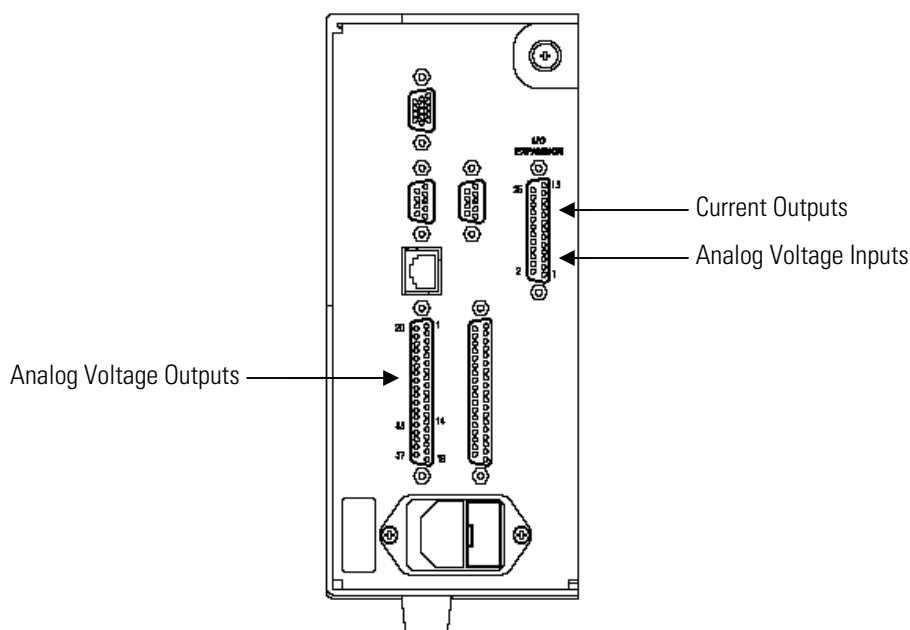

Figure 7–16. Rear Panel Analog Input and Output Pins
1. Connect a meter to the channel to be tested. Figure 7–16 shows the analog output pins and Table 7–4 identifies the associated channels.